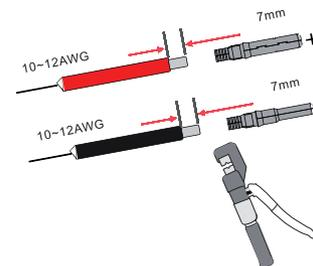

Figure 4.1-4 Crimp the terminal to the wire
**Setp 2.**Crimping metal terminals with crimping pliers,as shown in Figure 4.1-4.